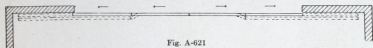

Fig. A-621
Similar installations operating from both sides of the doorway may be arranged in accordance with plans, Figs. A-621 and A-622.
- 2 pairs of flush doors sliding toward both sides of the doorway (Fig. A-621).
Plan, Fig. A-621—2 No. 525 Locks to lock doors from both inside and outside, and 2 No. 524 Bolts to lock doors from the inside only.